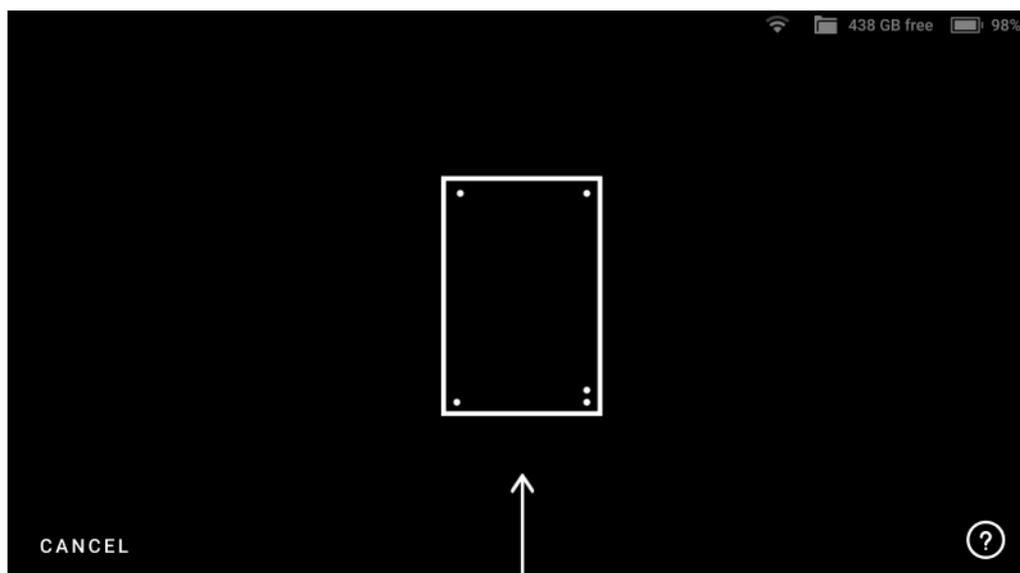

Figure 42: Leo's screen when there is no *Calibration board* in its field of view.
2. If there is no *Calibration board* in the field of view, Leo displays the screen as shown in Figure 42. In this case, simply point Leo to the *Calibration board* to open the scanning screen.